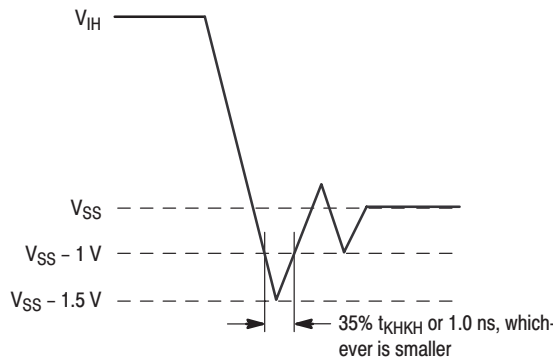

Figure 3. Undershoot Voltage
- Inputs may undershoot to $V_{SS} - 1\text{ V}$ (peak) for up to $35\% t_{KHKH}$ or 1.0 ns , whichever is smaller, and $V_{SS} - 1.5\text{ V}$ instantaneous peak undershoot. See Figure 3.